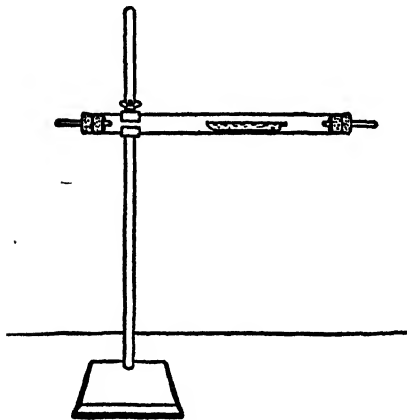

FIG. 15.
**a.** [Two students working together.] Fit a hard glass tube, 25–30 cm. long and open at both ends, with perforated corks and short glass tubes (Fig. 15). Support it on the ring-stand by means